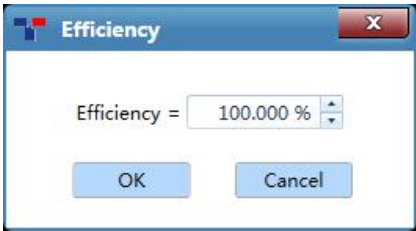

Figure D-12.1a Dye and Gene tab - Efficiency dialog box
- Users can click a certain  icon in **Efficiency** column and the application software will automatically pop up the efficiency dialog box, as shown in figure D-12.1a. Users can use  and  keys to set the amplification efficiency of the corresponding dye labeled gene.